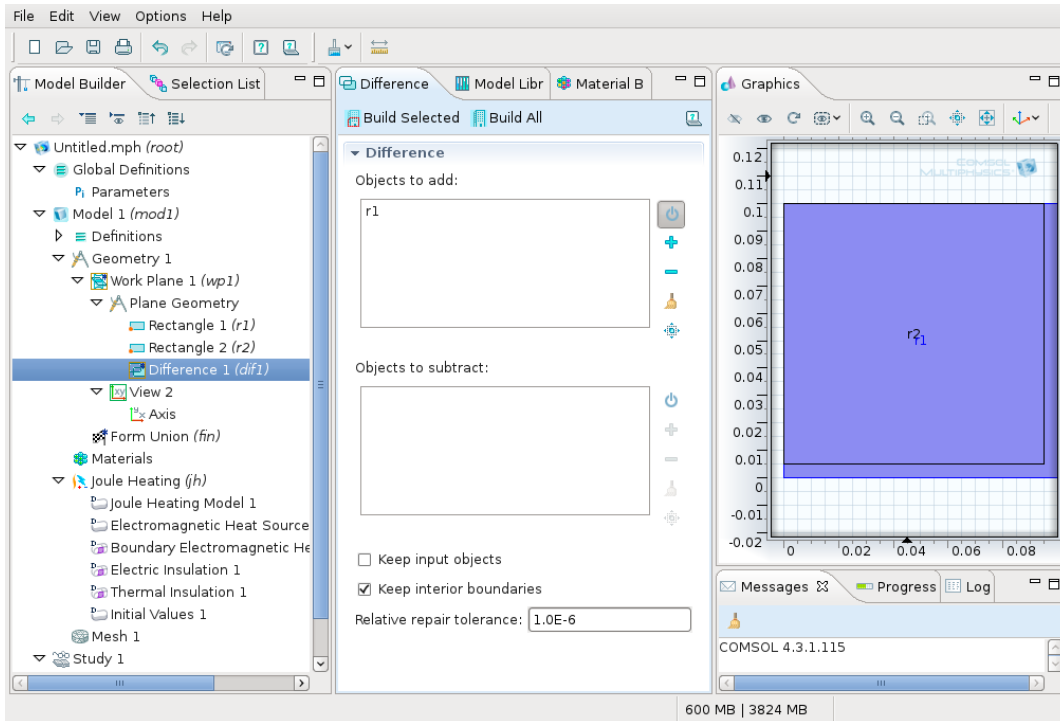

Figure 11: The minuend.
- then click the right button outside the selected geometry and the selected geometrical entity turns blue marking the successful selection (Fig. 11);